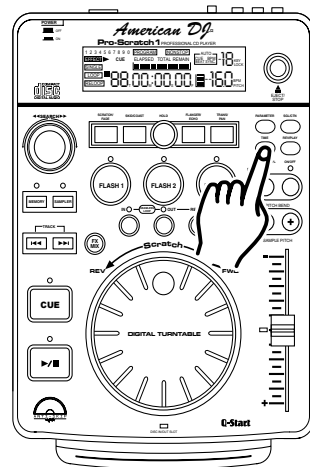

Figure 35
16. CHANGING THE TIME DISPLAY (49 & 50)/TIME BAR (51):
DURING NORMAL PLAYBACK, pressing the **TIME BUTTON (25)**, will change the time display information (49, 50, 56, & 57) in the LCD see figure 35. The following is a break down of the time settings and their definitions:
- 1) **ELAPSED (57)** - This describes the time in the LCD (49, 50, & 52) as the current TRACKS Elapse running time.
- 2) **REMAIN (56)** - This describes the time in the LCD (49, 50, & 52) as the current TRACKS remaining running time.
- 3) **TOTAL REMAIN (56)** - This describes the time in the LCD (49, 50, & 52) as the disc total remaining running time.